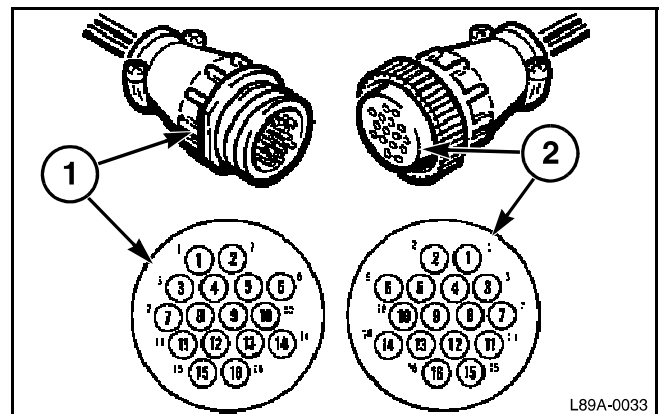

FIG. 7
FIG. 7: The numbers for some of the terminals are located on the face of the connectors. In the following illustration all of the terminal numbers are shown in the pins (1) and sockets (2) as an example of the sequence in which the numbers are located on the terminals.